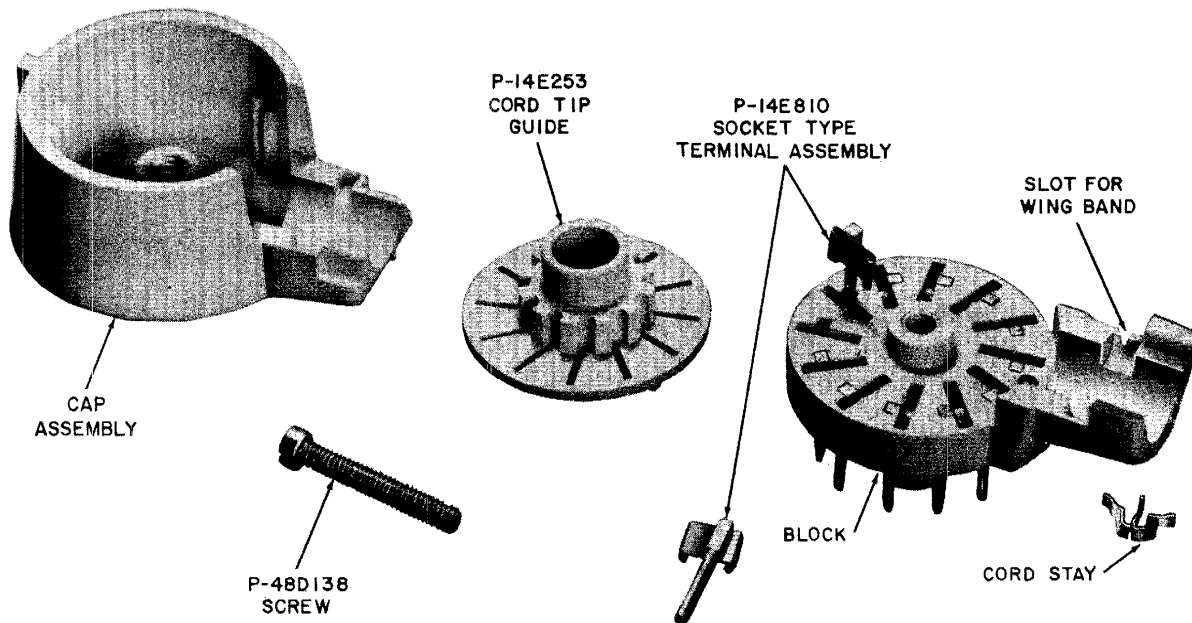

Fig. 2—504A Plug Disassembled
screw. Each terminal is equipped with a socket-type connector to receive the cord tip. A cord tip guide (Fig. 2) covers the terminals. The terminals are numbered 1 through 12 and match numbering on the 541A jack. The plug can be inserted into the jack in only one position.
2.03 Included with the plug is a metal cord stay designed for use with cords equipped with a wire S hook. The S hook is removed and discarded. The cord stay, inserted into the vacated band hole, serves as a wing band. Slots are provided on the plug block and shell (Fig. 2) to hold a wing band or the cord stay. The wing band or cord stay seated in the slot prevents the mounting cord from slipping out of the plug.
- (1) Place cord tip guide on block (Fig. 2).
- (2) Insert mounting cord tips into socket-type terminals of plug.